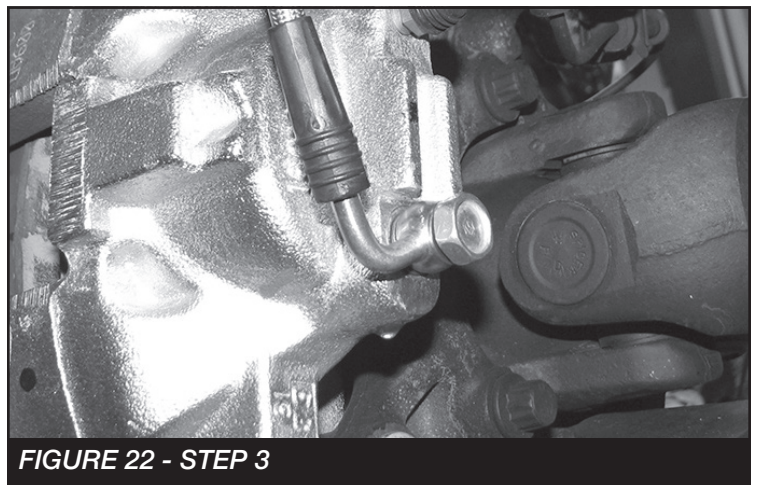

**FIGURE 20 - STEP 3**
3. Insert the new brake line fitting through the bracket and install onto the factory brake hard-line. Next, install the supplied u-clip to secure the line to the bracket. **SEE FIGURE 20**